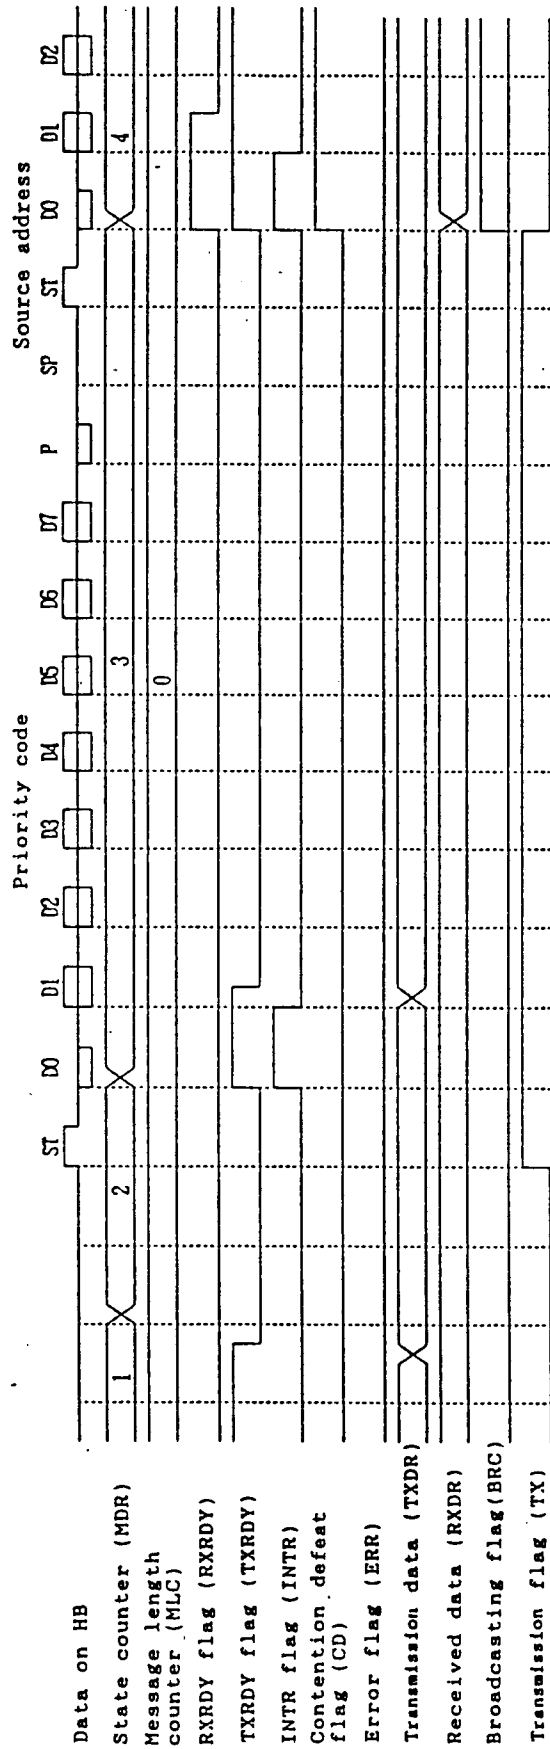

Figure 4.42 Contention defeat
Figure 4.42 shows contention defeat. This figure shows that contention defeat occurs in the priority code. The contention defeat flag (CD) rises when ST of the source address changes to DO. Upon contention, the transmission flag (TX) is set to 'L' at the position where the contention defeat flag (CD) rises (ST → DO) as shown in this figure. In this case, if data is written in and after the source address, the data is treated as the priority code of the next packet. The receiving operation then follows.